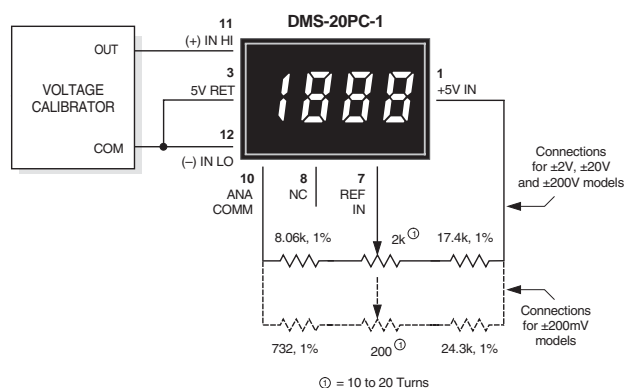

Figure 10. External Gain Adjustment
- 6. Gain Adjust:** There is a gain-adjust potentiometer on the back of each meter. It has approximately ± 50 counts ($\pm 2.5\%$) range of adjustment. Since these devices essentially have no zero/offset errors, a gain adjustment is effectively an overall accuracy adjustment. Though they may be performed at any point (except zero), accuracy adjustments are most effective when performed with higher level input signals. The circuit shown in Figure 10 provides $\pm 10\%$ range of adjustment.
- 8. External Gain Adjustment:** Connect REFERENCE OUT (pin 8) to REFERENCE IN (pin 7) for normal, factory calibrated, operation. Use the circuit shown in Figure 10 for applications needing external gain adjustment. Calibration is performed with a precise, near-full-scale, input voltage.